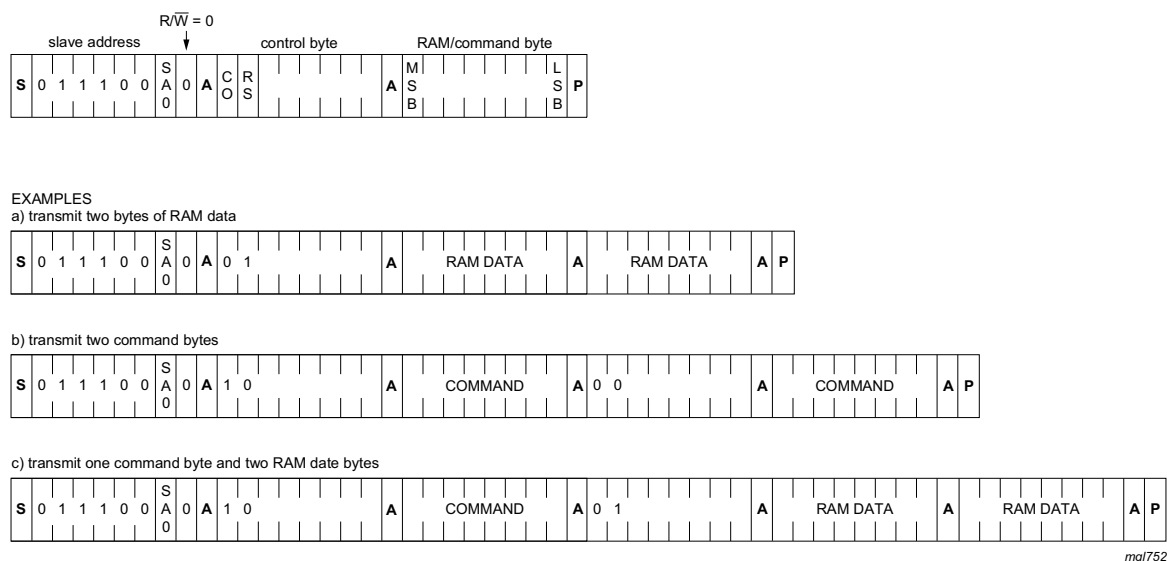

Fig 21. I²C-bus protocol
The I²C-bus protocol is shown in Figure 21. The sequence is initiated with a START condition (S) from the I²C-bus master which is followed by one of two possible PCF85132 slave addresses available. All PCF85132 with the corresponding SA0 level acknowledge in parallel to the slave address, but all PCF85132 with the alternative SA0 level ignore the whole I²C-bus transfer.